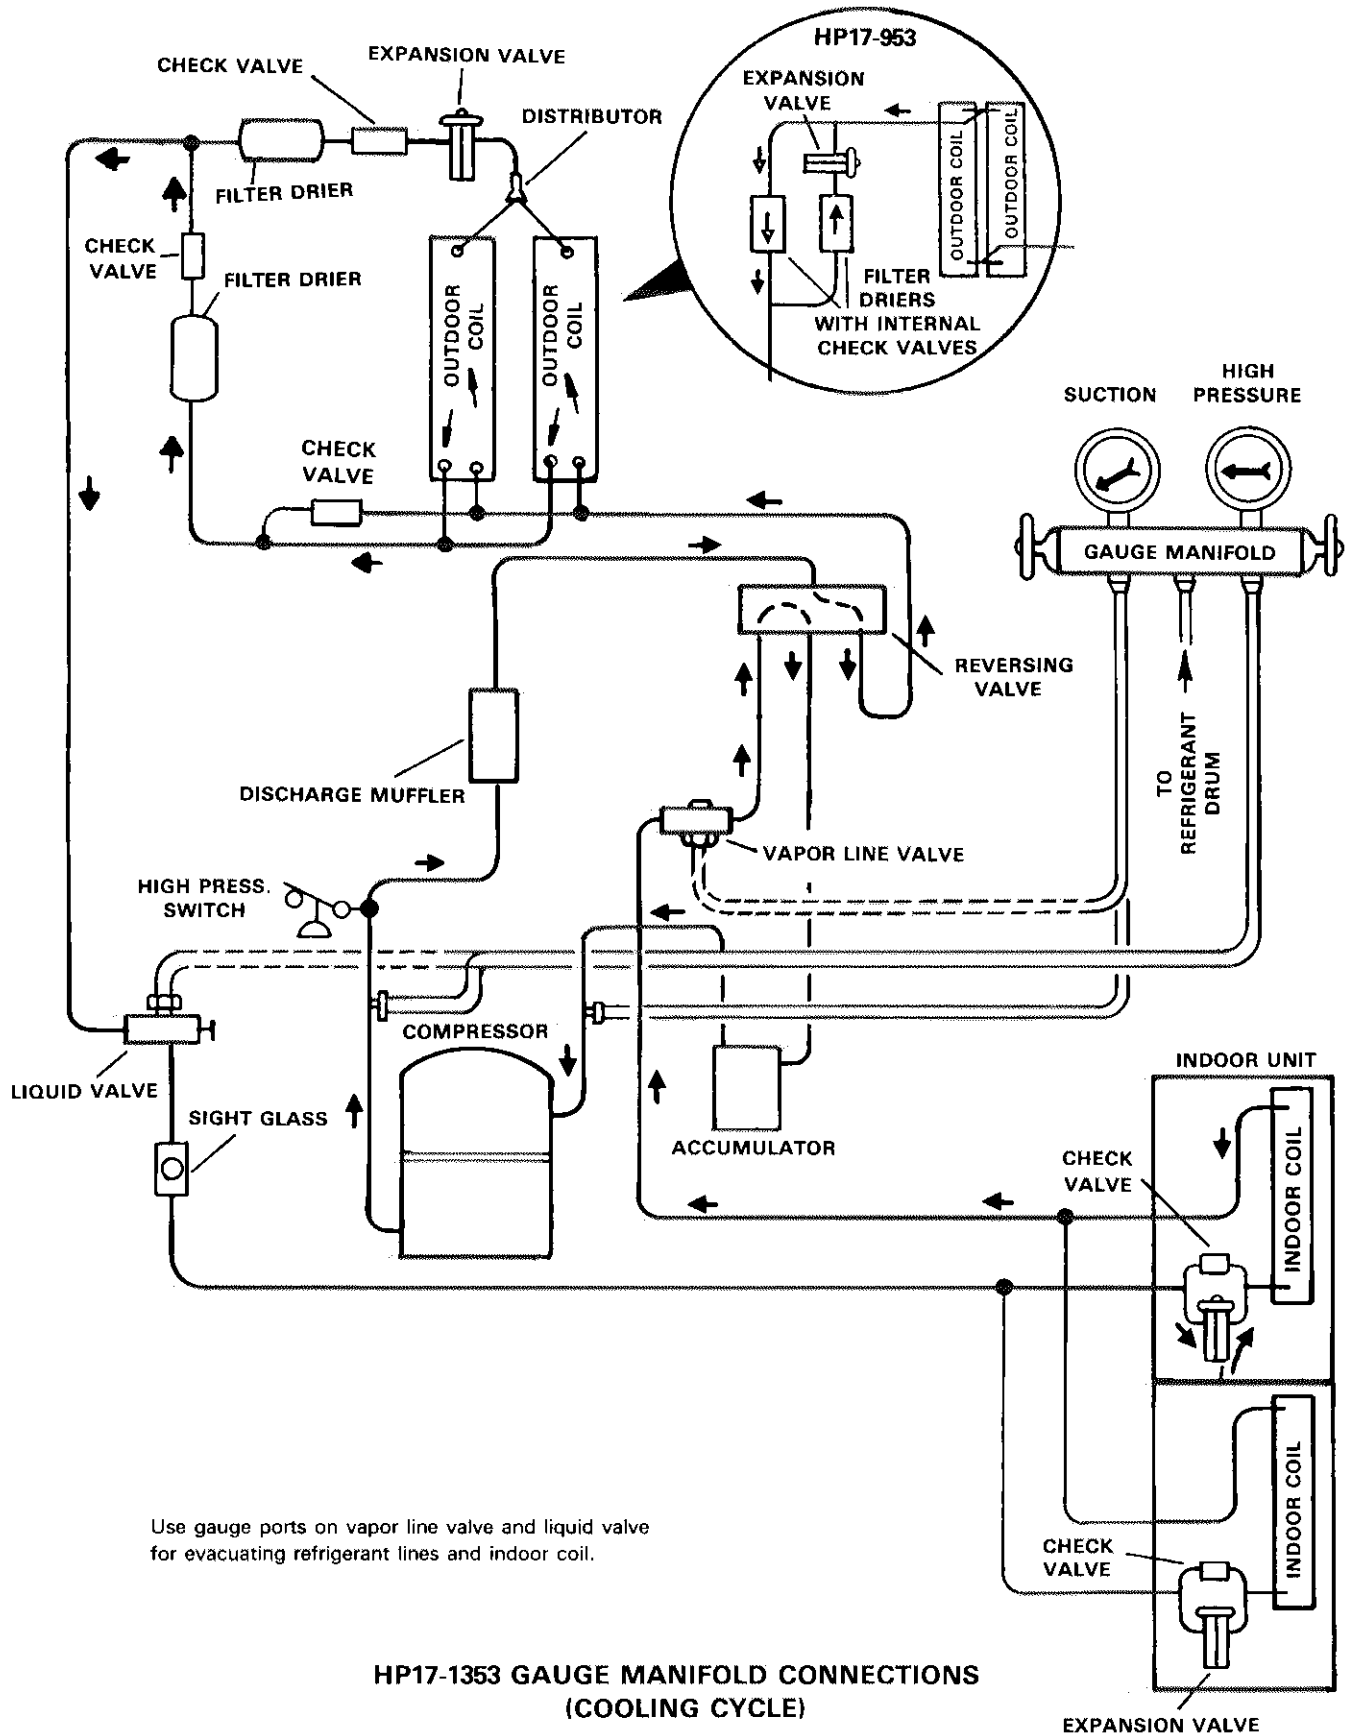

FIGURE 1
- 1 - Attach gauge manifold as shown in Figure 1, "Gauge Manifold Connections." Connect vacuum pump (with vacuum gauge) to center port of gauge manifold. With both manifold service valves open, start pump and evacuate indoor coil and refrigerant lines.
- 2 - Connect gauge manifold as shown in Figure 1 "Gauge Manifold Connections." Connect an upright R-22 drum to center port of gauge manifold.